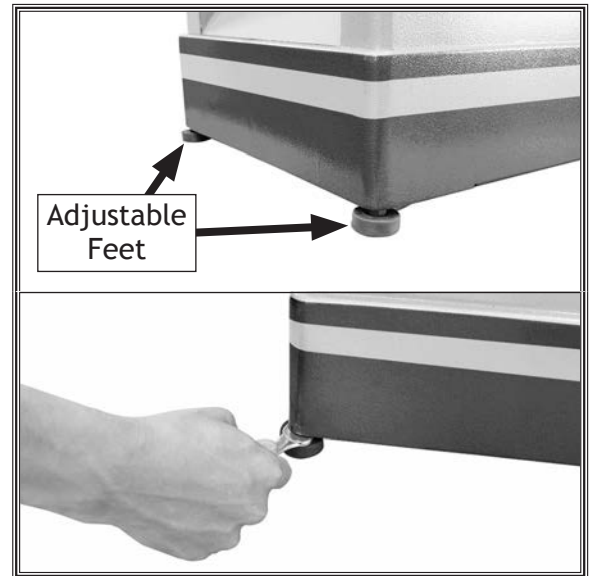

Figure 11. Leveling jointer.
- Adjust feet (see **Figure 11**) as necessary until jointer is stable without any rocking or wobbling.